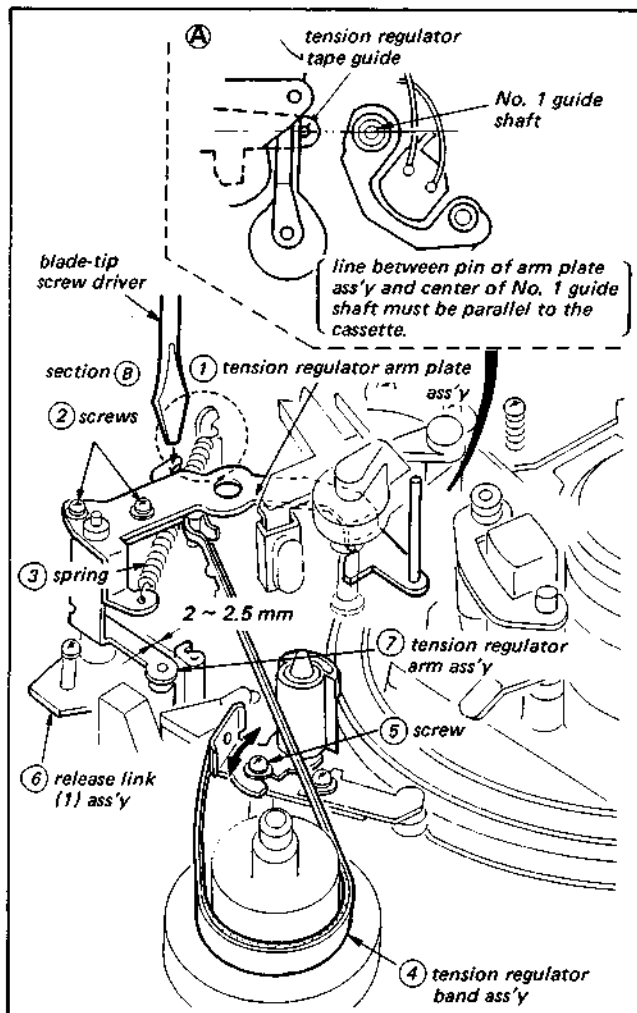

Fig. 3-11. Replacement and adjustment (1) of tension regulator arm plate assembly
1. The tension regulator arm plate can be removed after removing two screws (2) and spring (3) shown in Fig. 3-11.
- (iii) Loosen screw (5) that mounts tension regulator band assembly (4) as shown in Fig. 3-11. Move tension regulator band assembly (4) in the arrow direction, and tighten screw (5) tentatively when the condition shown in (A) is set up.
- (iv) Insert a standard blade-tip screwdriver into section (B), adjust the clearance between release link (1) assembly (6) and tension regulator arm assembly (7), shown in Fig. 3-11, to be 2 to 2.5 mm, and tighten screw (2).
- (v) Repeat Steps (iii) and (iv) again and tighten screws (2) and (5).